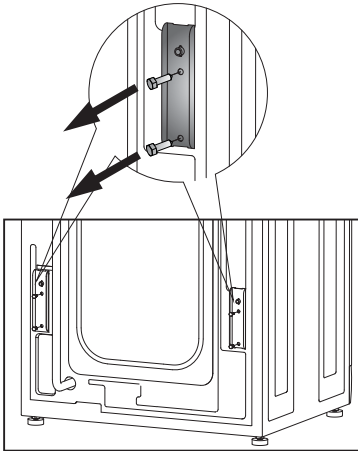
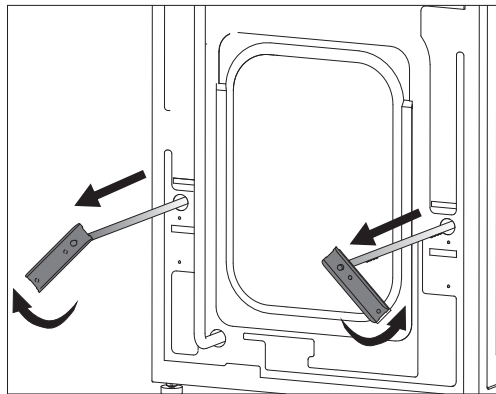
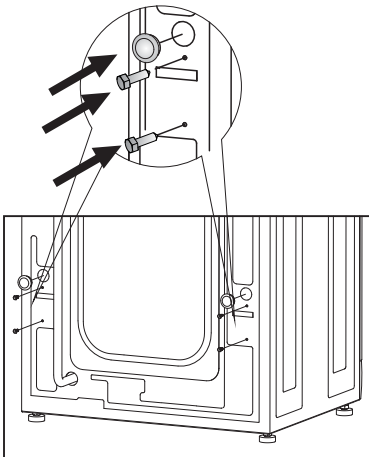

Fig.1
Fig.2
Fig.3
**Important:** The inside of the Washer-Dryer consists of a free floating drum that is affixed with shipping rods at the back of the cabinet (Fig.1) during transport. Before starting the machine, remember to remove the shipping rods (Fig.2) Close the holes left open by the rods with the plastic caps provided (Fig. 3).